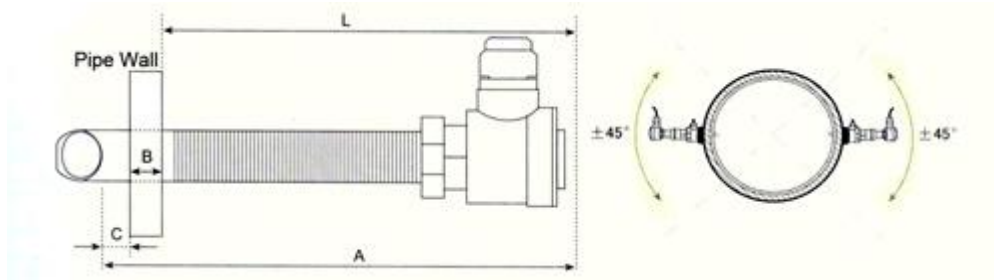

Fig. 11
Open the ball valve and insert the transducer into the pipe. At the same time, measure the Length L (See Fig.11) and make sure it complies with the following formula:
**As shown Fig.11 right, the cable holes of two transducers must be in same direction.**